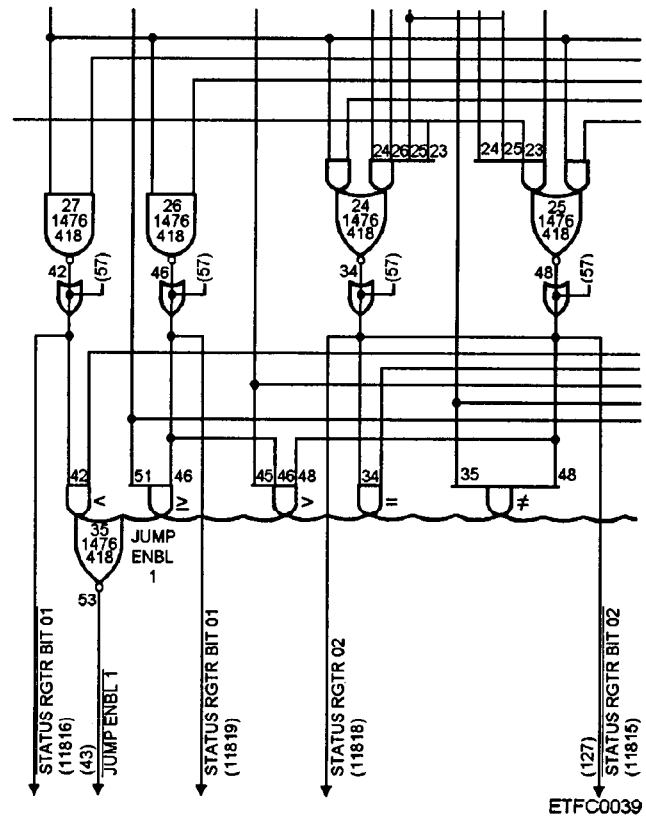

Figure 4-18.—Example of a comparator circuit (an arithmetic detection circuit).
- Comparator —Comparator circuits can be used to compare incoming binary numbers after mathematical operations have been performed on them; for example, to check if two numbers are equal and so on. They can also perform any of several logic gating operations on bits of two binary bits coming in, such as AND and OR operations. In addition, they perform a wider range of comparison operations, such as less-than-or-not and equals-or-not, and these comparisons can be applied to individual **bits** of two input numbers. Figure 4-18 is an example of a comparator circuit (an arithmetic detection circuit).